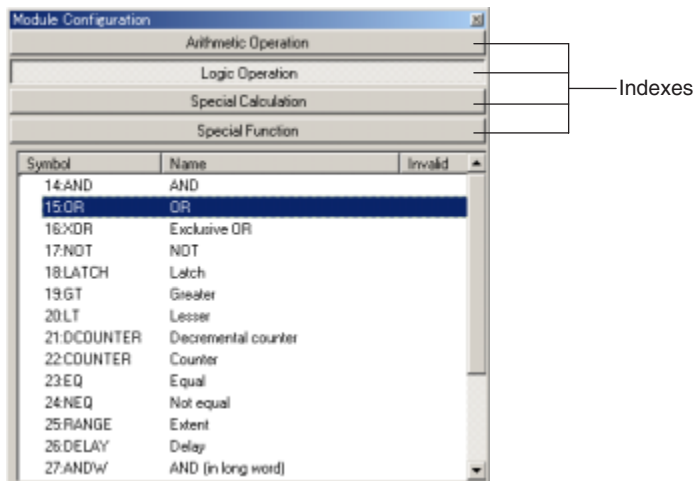

Figure 4.3.5 [Module Configuration] Dialog Box
- (2) In the [Output Block] dialog box, double-click a blank box. The [Module Configuration] dialog box (Figure 4.3.5) appears. For ease of selection, modules are classified into four types; arithmetic operation, logical operation, special calculation and special function.